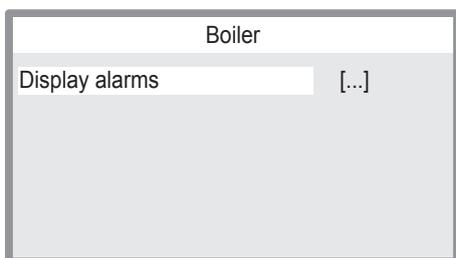

Figure 4.5
- 5 Press key "D" (Figure 4.1) again to highlight the value to be changed (Figure 4.5).